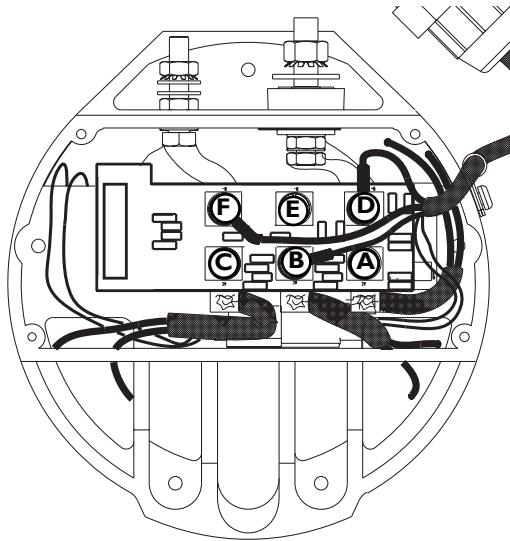

Figure 3 – Diode Module Terminal Designations
4. Install screws in terminals E, A, and C. Leave fasteners loose. See Figure 3 on page 2.
5. Using new hardware, install red harness lead (B+) in terminal D. Install brown harness lead (AC) in terminal B and green harness lead in terminal F.
SEE FIGURE 3.
5. Install new diode module in orientation shown in Figure 3. Stack mounting hardware on mounting studs: nut, disc spring washer, flat washer. Torque nuts to 12.5 Nm/9.2 lb. ft.